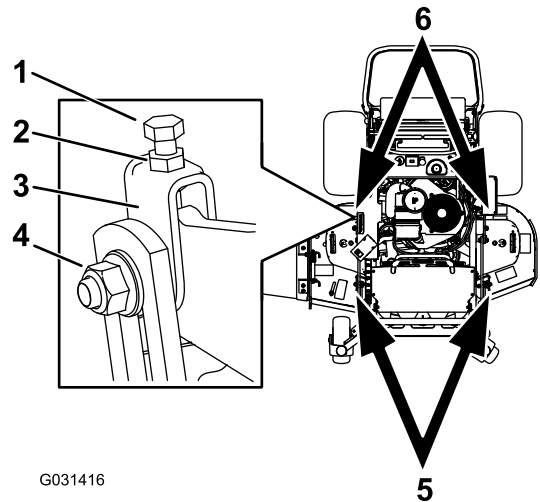

Figure 81
1. Loosen the jam nut and side bolt in the yokes that you want to adjust (Figure 81).
2. Rotate the top bolt of the yokes to adjust the height of the mower deck (Figure 81).
5. If the measurement is not correct, locate the front 2 yokes on the machine (Figure 81).